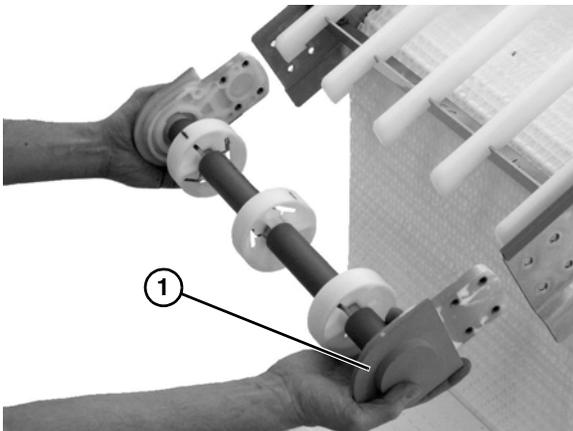

Figure 44
3. Remove idler tail assembly (Figure 44, item 1).